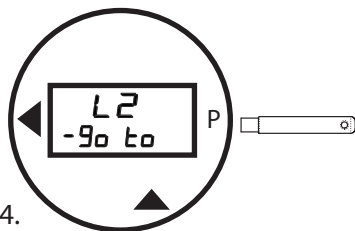

Figure 24.
- Pass the wand over the **P** until you reach the **L2 - Go To** selection (Figure 24).